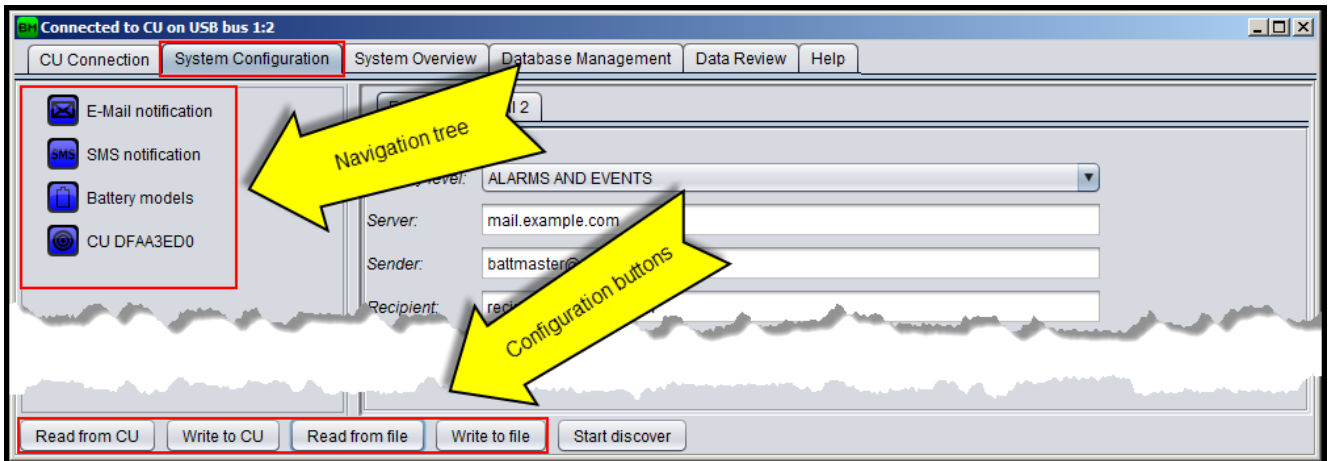

Figure 28: System setup
5. Open the “System configuration” tab as shown on Figure 28.